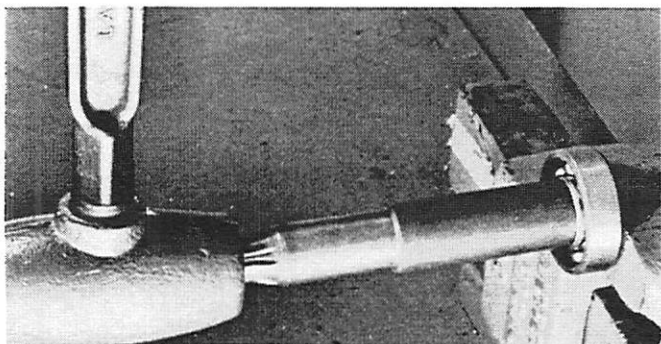

Figure 10. Installing Ball Bearing on Drive Shaft
2. Place drive shaft in vise loosely, tapping against pinioned spline end until bearing seats. (Figure 10)